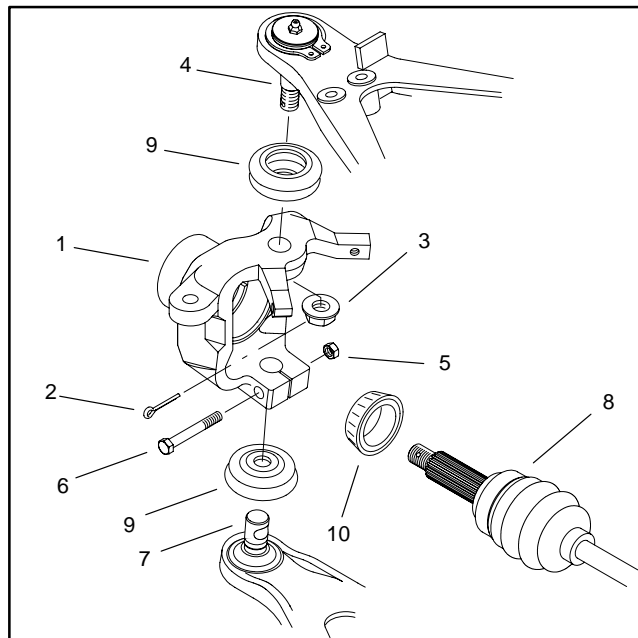
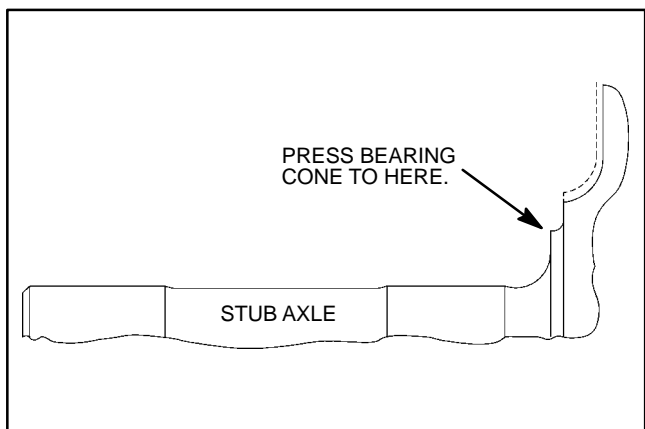

Figure 3
Figure 5
2. Partially loosen lug nuts (1). Jack up and secure front wheel off the ground (see Jacking Vehicle in Chapter 1 – Safety). Remove lug nuts and wheel from the brake drum (32).
3. Remove brake drum (32) from the cap screws (3) and stub axle (31).
4. Remove flange lock nut (36) and flat washer (35) from the threaded shaft of the CV joint (15) and stub axle (31).
5. Pull stub axle (31) and bearing (14) cone from the axle housing (28). Remove large spacer (30) and small spacer from the axle housing. Remove remaining bearing (14) cone from the housing.
6. Remove cap screw (9) and flat washer (10) securing the brake hose bracket (12) to the axle housing (28).
7. Remove four cap screws (6) and lock washers (7) securing the brake assembly (5) to the axle housing (28). Secure assembly clear of the housing.
8. Remove cotter pin (16) and slotted hex nut (17) from the tie rod end assembly (20). Disconnect end assembly from the axle housing (28).
9. Remove axle housing (28) from the suspension as follows (Fig. 3):
2. If ball joint seals are torn or cracked, replace seals and lubricate ball joints (Fig. 3).
3. Replace worn or cross-threaded cap screws (3) or lug nuts (1).
4. Replace large spacer (30) if worn or damaged.
1. If cap screws (3) were removed from the stub axle (31), install new cap screws and lock washers (2) to the stub axle. Apply Loctite 680 or equivalent to the threads near the head of the cap screws. Torque cap screws from 40 to 60 ft-lb (5.5 to 8.3 kg-m).
**IMPORTANT: Bearing cones (14) and bearing cups (14) are part of a matched set; these parts are not interchangeable. Use one bearing set per axle housing (28).**
2. If a bearing cup (14) was removed from the axle housing (28), press **new** bearing cups into each end of the axle housing (28).
3. Pack both bearing (14) cones with Mobile high temperature grease or equivalent. If the bearing cone was removed from the stub axle (31), slide wide end of **new** bearing cone onto the shaft of the stub axle and press cone onto the shaft (Fig. 5).
4. Insert shaft of the stub axle (31) into the axle housing (28). Slide small spacer onto the shaft, then slide large spacer (30) onto the shaft.
5. Slide bearing (14) cone, with its narrow end first, onto the shaft of the stub axle (31).
6. Apply No. 2 general purpose grease to the splines of the CV joint (15).
7. Position brake backing plate assembly (5) to the axle housing (28). Secure brake assembly to the axle housing with four cap screws (6) and lock washers (7).
8. Position stub axle (31)/axle housing (28) assembly to the CV joint (15). Insert splined end of the CV joint into the stub axle.
9. Apply Loctite 271 or equivalent to the threads of the CV joint (15). Install flat washer (35) and flange lock nut (36) to the CV joint threads.
10. Install suspension to the axle housing (28) as follows (Fig. 3):
C. Torque flange lock nut (36) from 170 to 200 ft-lb (23.5 to 27.7 kg-cm).
11. Connect tie rod assembly (20) to the axle housing (28). Secure slotted hex nut (17) and cotter pin (16) to the tie rod end assembly.
12. Secure brake hose bracket (12) to the axle housing (28) with cap screw (9) and flat washer (10).
13. Install brake drum (32) to stub axle (31) with cap screws (3).
14. Secure wheel to the brake drum (32) with five lug nuts (1). Lower front wheel to the ground. Torque lug nuts from 45 to 55 ft-lb (6.2 to 7.6 kg-m).